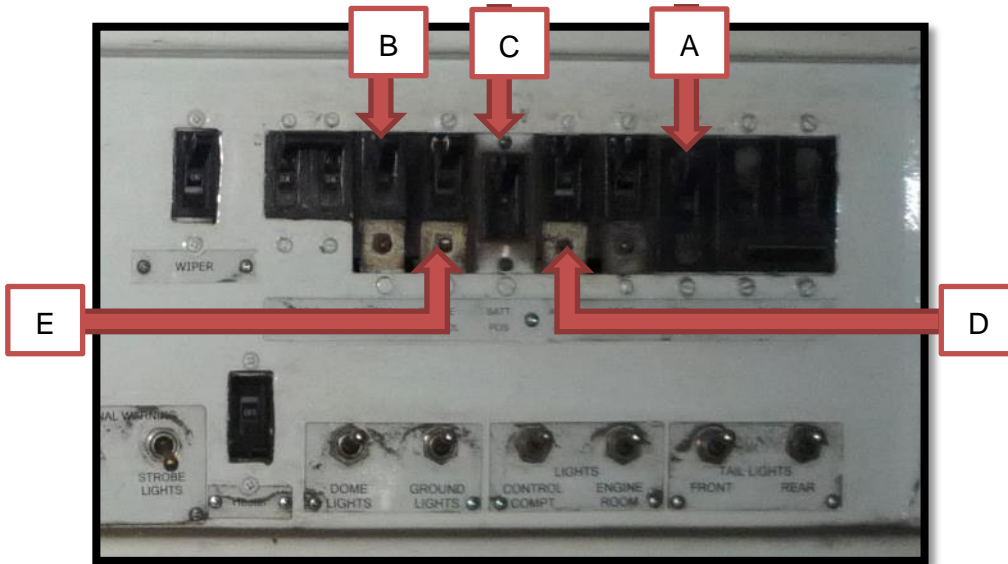

Figure 24: Circuit Breakers to be closed
8. Close the following circuit breakers (*Figure 24*):